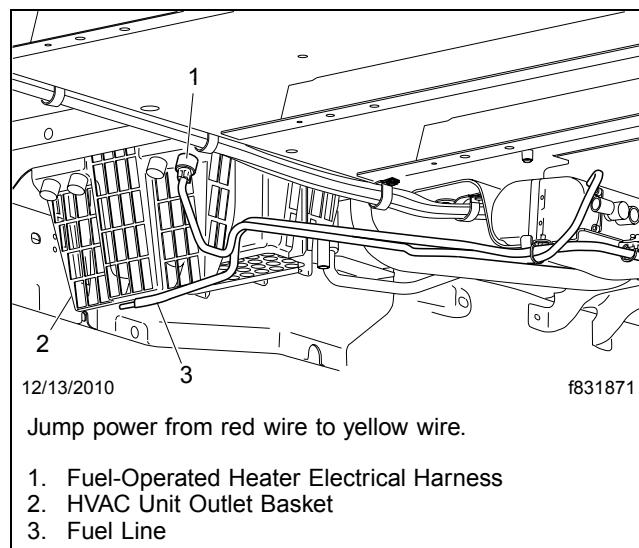

Fig. 28, Testing the Fuel-Operated Heater Function
2. Jump the power from the red wire to the yellow wire (so that both supply 12V to the heater). See **Fig. 28**.